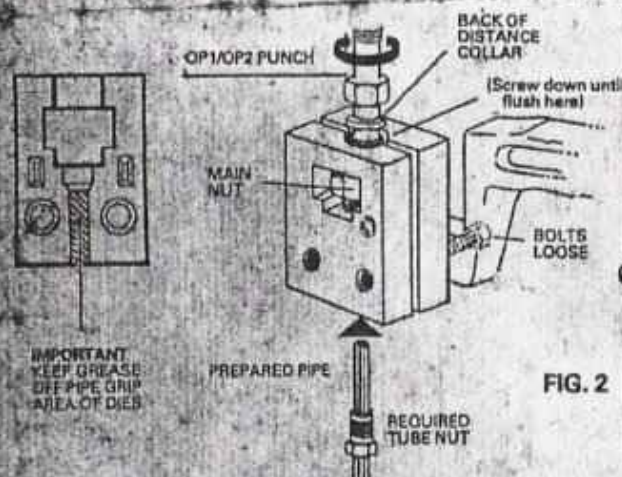

FIG. 2
After placing the required tube connector over the end of the new pipe, feed the new pipe through the hole formed in the bottom of the dies (B & C) see Fig. 2, until the greased pin on the front of the punch Fig. 3 (A) engages with the bore of the pipe (this can be seen to happen through the small aperture underneath the main nut (E)). Whilst pushing the new pipe firmly into the dies (B & C) and onto the pin, screw down the punch (A) until the back of the "distance collar" is flush with the top of the dies (B & C). Fully tighten clamping bolts (H). The pipe is now in the correct position for flaring. Continue to tighten punch (A) hard down into dies (B & C) this will form a single flare on the pipe.